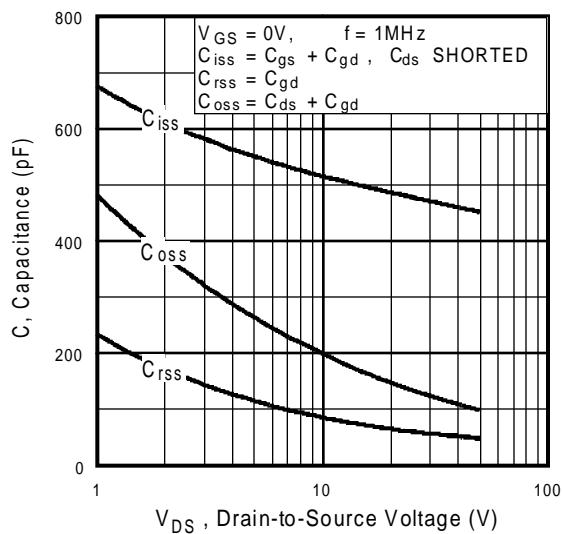

Fig 5. Typical Capacitance Vs.
$f = 1.0\text{MHz}$, See Fig. 5⑥